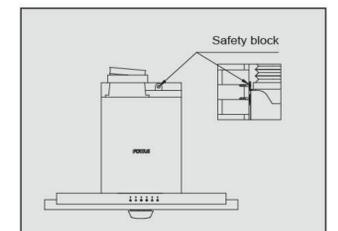

Fig.2
- Confirm the churn drilling hole position according to Fig 2, firmly imbed the expansion pipe, fix the safety block, and screw in the wooden screw to fix.
- If you install the range hood matching with cabinet, then exchange Step (4) and Step (5).